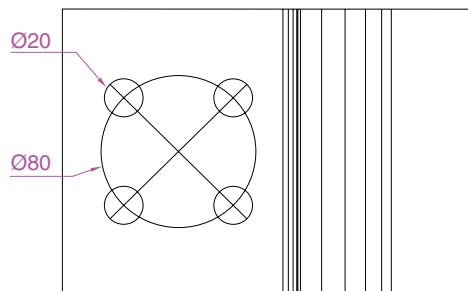

Fig. 17.26 Second example – 2D outlines in 3D space – the circles in the new UCS face
Second example – 2D outlines in 3D space (Fig. 17.26)
4. Click the **Face UCS** tool icon in the **UCS** toolbar (Fig. 17.25) and place the 3D model in the ucs plane shown in Fig. 17.26, selecting the sloping face of the extrusion for the plane and again **Zoom** to 1.
5. With the **Circle** tool draw five circles as shown in Fig. 17.26.